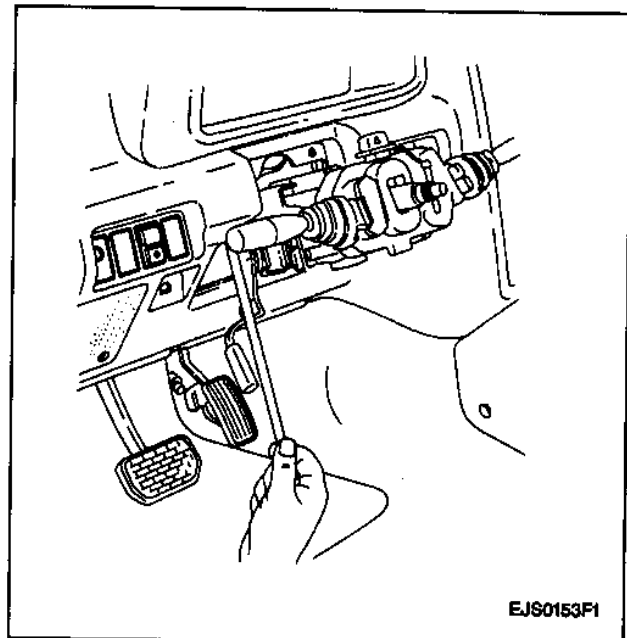

Figure 19—Removing Steering Column Mounting Bolts
10. Two steering column mounting (Torx®) bolts and remove column from vehicle (Figure 19).
2. Two steering column mounting (Torx®) bolts and four bolts to the column-to-bulkhead plate (Figure 19).